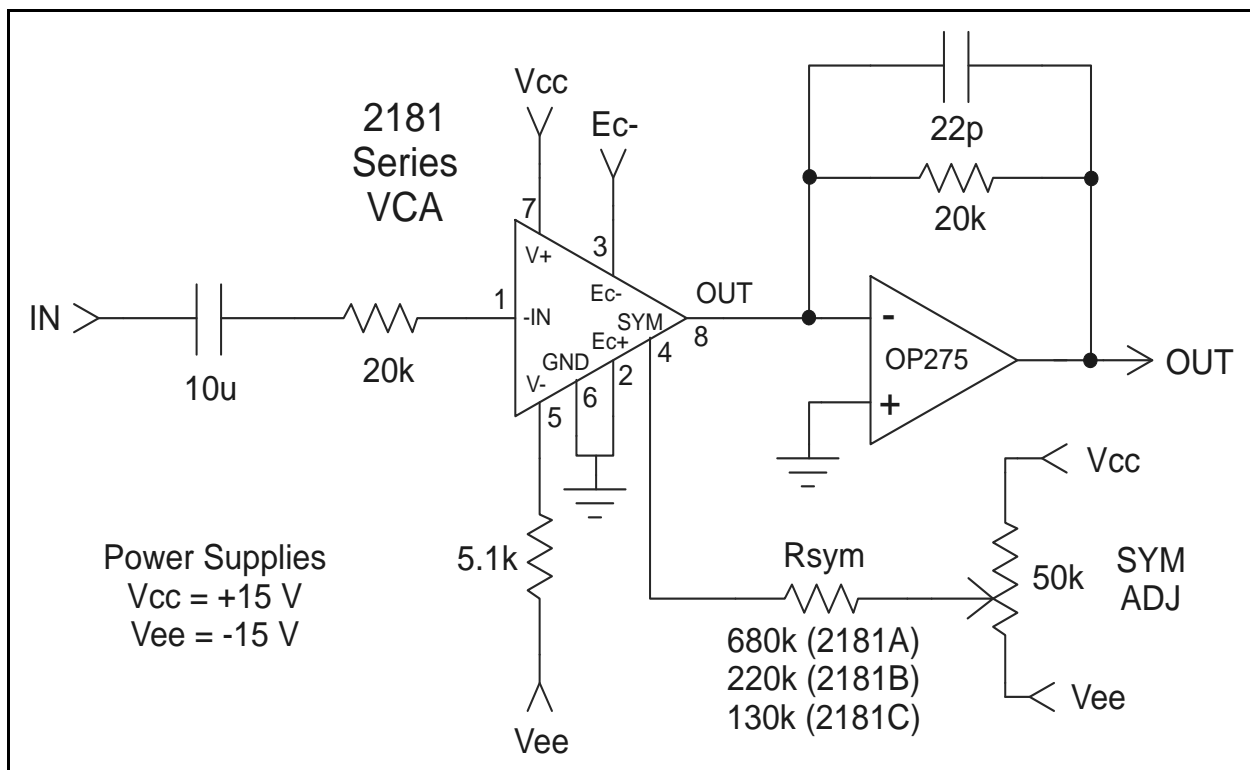
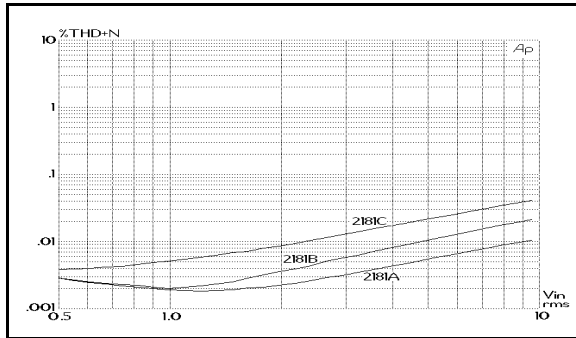
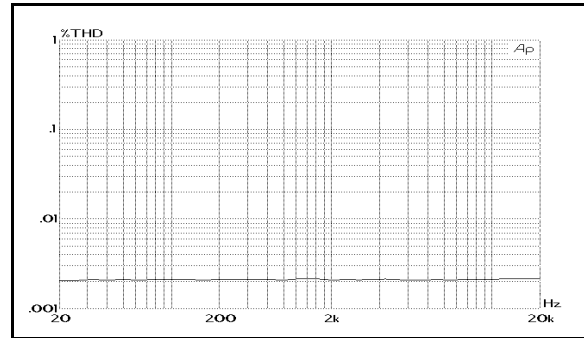
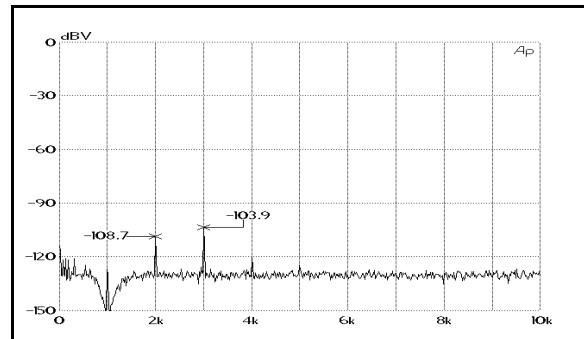

Figure 2. Typical Application Circuit
Figure 10. 1 kHz THD+Noise vs. Input Level, 0dB Gain
Figure 13. 2181A THD+N vs Frequency, 0dB gain 1kHz 1V
Figure 14. FFT of THD, Typical 2181A, 0dB Gain, 1V, 1kHz
2. Unless otherwise noted, $T_A = 25^\circ\text{C}$, $V_{CC} = +15\text{V}$, $V_{EE} = -15\text{V}$. Test circuit as shown in Figure 2. SYM ADJ is adjusted for minimum THD at 1 V, 1 kHz, $E_C = -E_{C+} = 0$ V.
In normal operation, the output current is converted to a voltage via an opamp-based I-V converter, as shown in Figure 2, where the conversion ratio is determined by the feedback resistor connected between the output and inverting input. The signal path through the VCA and the output opamp is non-inverting.
The 2181-Series VCAs are intended to be adjusted for minimum distortion by applying a small variable offset voltage to pin 4, the SYM pin. Note that there is a 25 Ω resistor internal to the 2181 between pin 4 and pin 2. As shown in Figure 2, Page 3, the usual method of applying this offset is to use the internal 25 Ω resistor along with a larger value resistor to form a voltage divider connected to the wiper of a trim pot across the supply rails.
The 2181-Series VCA design, fabrication and testing ensure extremely good audio performance when used as recommended. The 2181 maintains low distortion over a wide range of gain, cut and signal levels. Figures 10 through 12 show typical distortion performance for representative samples of each grade of the part. At or near unity gain, the 2181 behaves much like a good opamp, with low distortion over the entire audio band. Figure 13 shows typical THD for a 2181A over frequency at 0 dB gain, with a 1 V input signal, while Figure 14 details the harmonic content of the distortion in a typical A-grade part.
The Input pin (pin 1) is a virtual ground with negative feedback provided internally (see Figure 5, Page 4). The input resistor (shown as 20 k Ω in Figure 2, Page 3) should be scaled to convert the available ac input voltage to a current within the linear range of the device. Generally, peak input currents should be kept under 1 mA for best distortion performance.
Refer to Figures 10 through 12 to see how distortion varies with signal level for the three parts in the 2181 Series for 0 dB, +15 dB and -15 dB gain. The circuit of Figure 2, Page 3 was used to generate these curves.
A designer may trade off noise for distortion by decreasing the 20 k Ω current-to-voltage converting resistors used at the input and output in Figure 2, Page 3. For every dB these resistor values are decreased, the voltage noise at the output of the OP275 is reduced by one dB. For example, with 10 k Ω resistors, the output noise floor drops to -104 dBV (typical) at 0 dB gain — a 6 dB reduction in noise because 10 k Ω is 1/2 of (6 dB lower than) 20 k Ω .
The Output pin (pin 8) is intended to be connected to a virtual ground node, so that current flowing in it may be converted to a voltage (see Figures 2 & 15). Choose the external opamp for good audio performance. The feedback resistor should be chosen based on the desired current-to-voltage conversion constant. Since the input resistor determines the voltage-to-current conversion at the input,
The SYM pin (pin 4) is actually a sort of additional positive-sense control port. It is provided to allow V_{be} mismatches in the core transistors to be adjusted after packaging and installation in the circuit board. It should only be used for this purpose. Connect pin 4 only to a high-impedance source as shown in Figures 2 and 15.